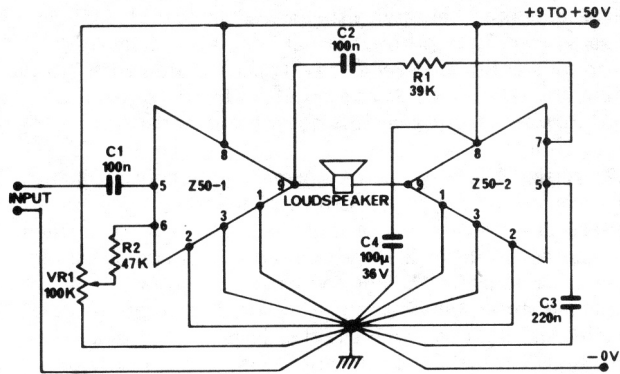

Fig 4.16.2
4.16.2 Full Bridge Circuit 60w rms Amplifier For some purposes where very high power is required or when a large power has to be delivered to a high impedance load the circuit of fig. 4.16.2 can be used. This will deliver approximately twice the power, into 15Ω , that can be delivered into 7.5Ω by the normal circuit, i.e. 60w rms continuous at 50v or 12w at 24v. It can be used with 7.5Ω load at a maximum of 35v and up to 60w rms output, or about 20w rms from 24v. It is not recommended for operation into 3Ω